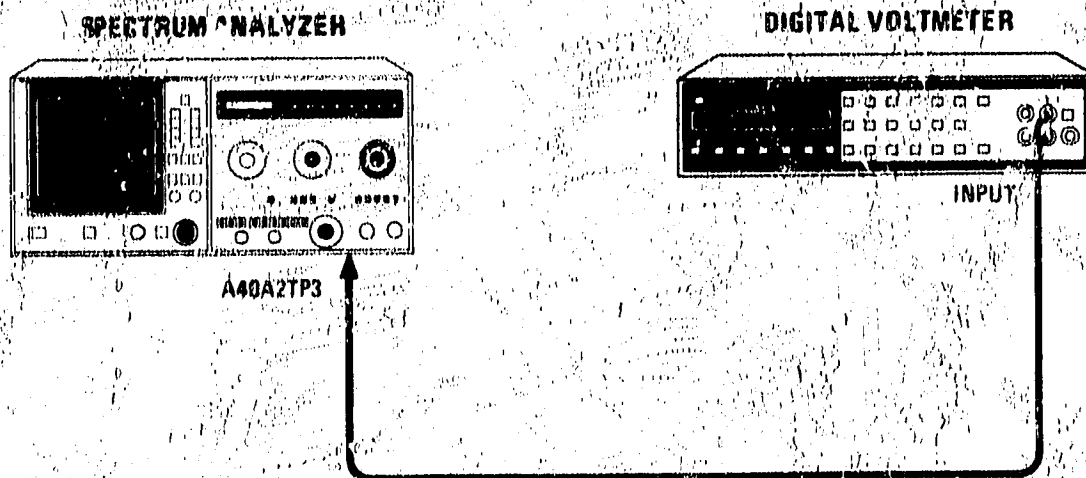

Figure 5-1. Low Voltage Power Supply Check and Adjustment Test Setup
1. Set LINE switch OFF, disconnect power cord, and remove 8569A bottom cover to gain access to low voltage power supplies. Connect equipment as shown in Figure 5-1.